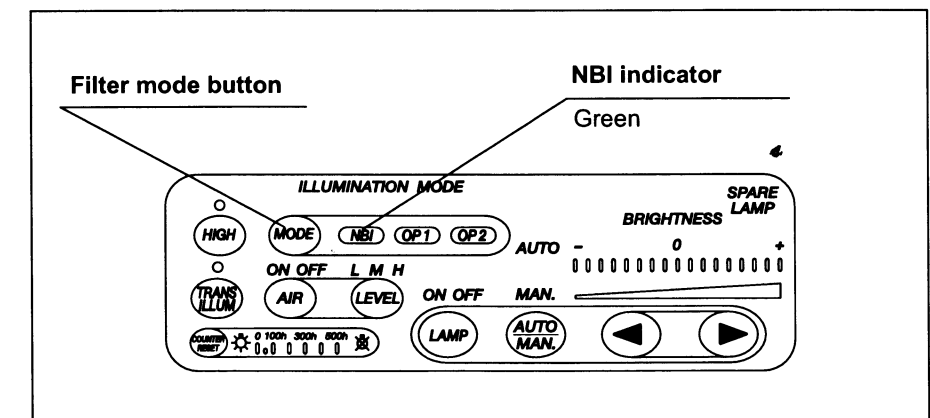

Figure 4.11
1. Confirm that the filter mode button lights and the "NBI" indicator lights in green (see Figure 4.11).
2. In Figure 4.11, normal observation is active.